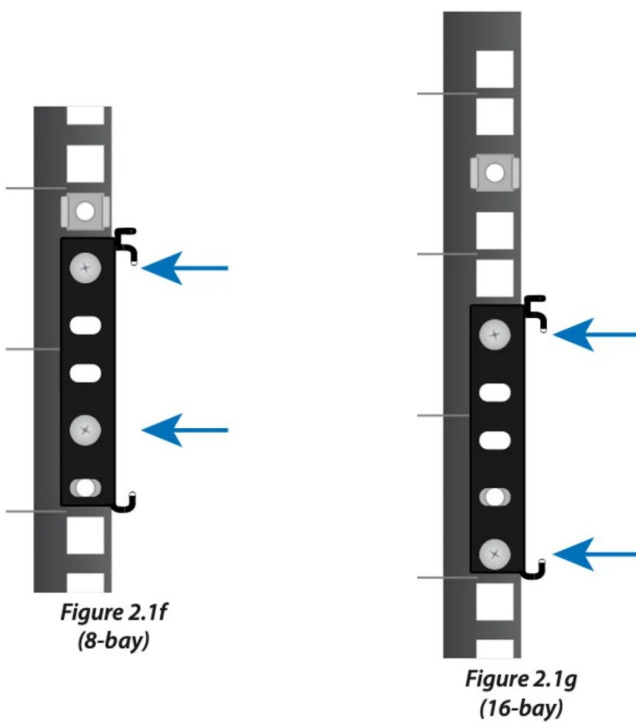

Figure 2.1f
6. Install the front rails, first making sure the bottom of the rail lines up with the bottom of the designated rack units. Using Figure 2.1f as a guide for an 8-bay and for a 16-bay unit, secure the rail using two of the included M5 pan head screws.